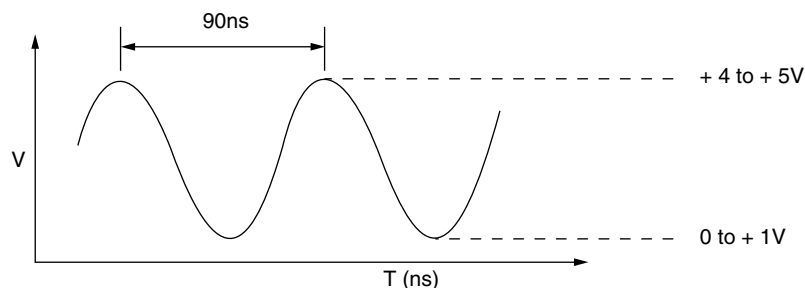

Figure B-4
- Is the OSC oscillation waveform as specified in Figure B-4?